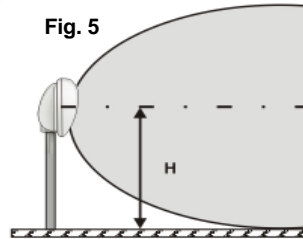

Fig. 5
The mounting height (H) depends on the type of barrier (fig. 5):